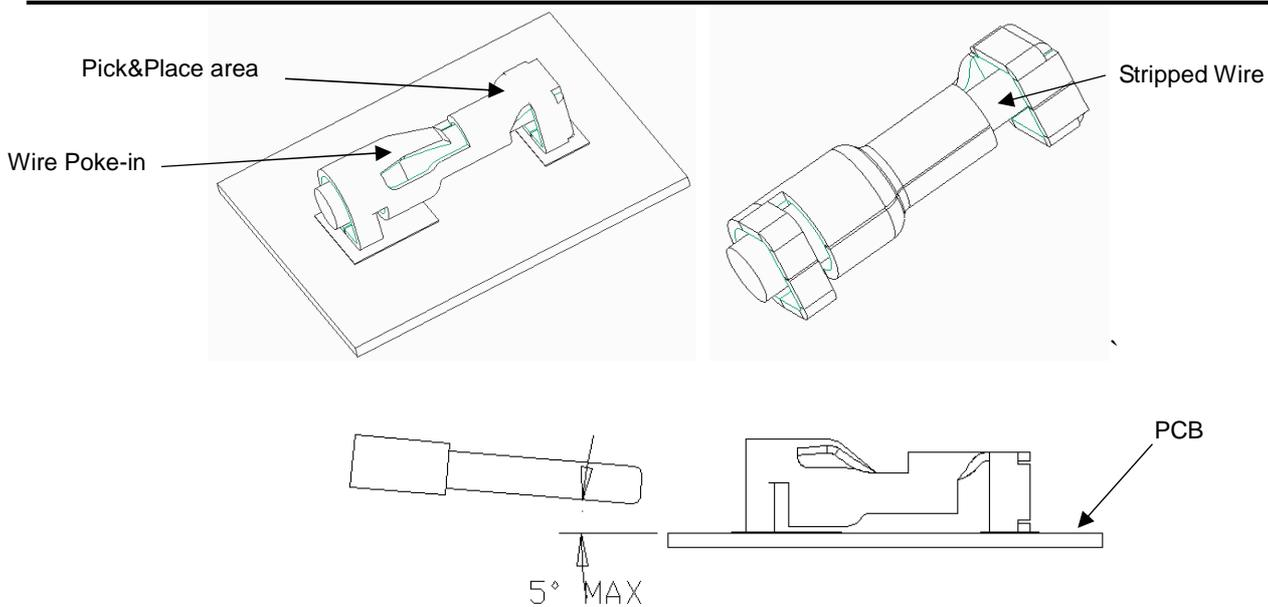

Figure 3
2. Insert each stripped wire into the poke-in slot of the connector until the stripped wire is pushed to the rear stop position. The maximum allowed insertion angle is 5° (Figure 3).